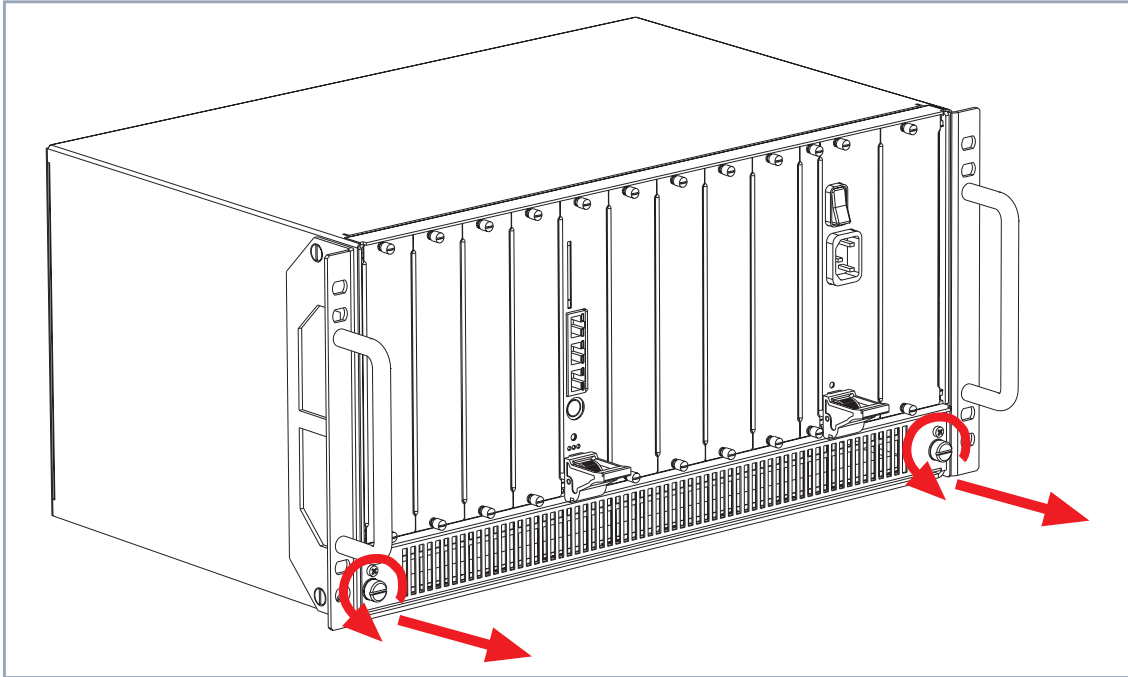

Figure 4-10: Loosening the screws and removing the fan cassette
- Loosen the two screws of the fan cassette by turning the screws to the left until they pop out of their position, see figure 4-10, page 48.